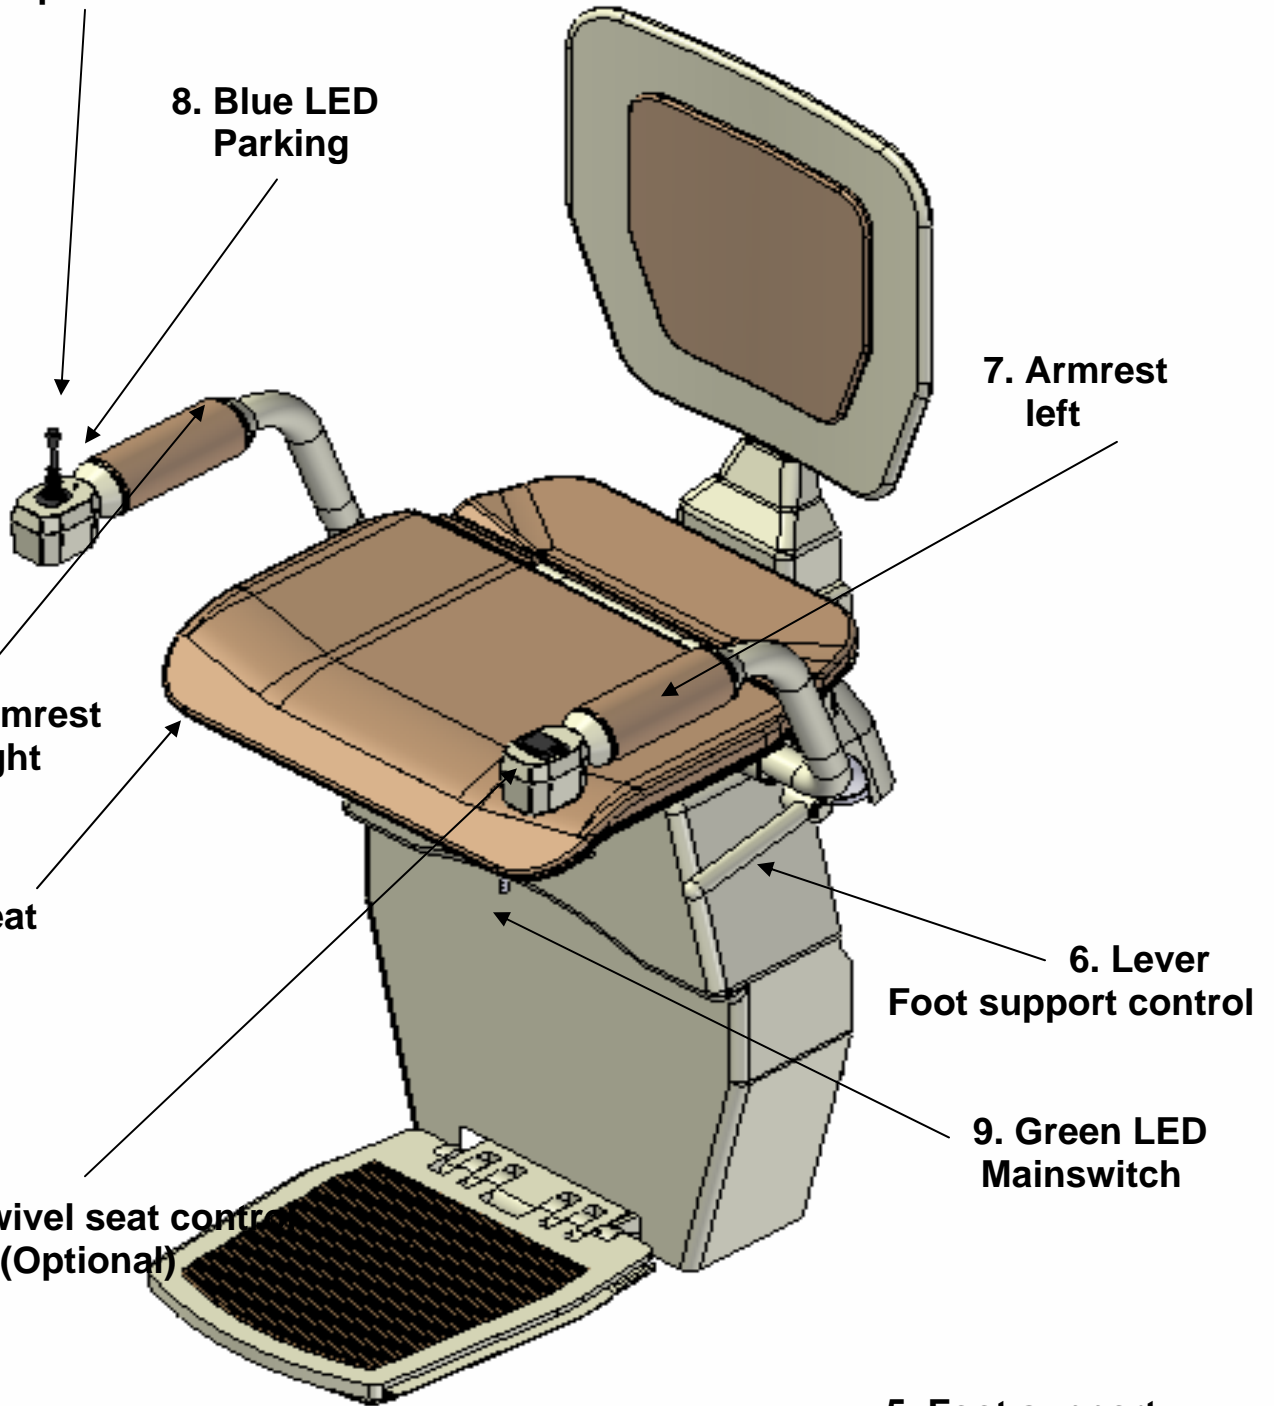

Fig. 3
Please tilt down the armrests and the seat before using the lift. (Fig. 3; (2)(3)(7)
The green LED (Fig.3 (9)) indicates the function of your HAWLE stairlift.